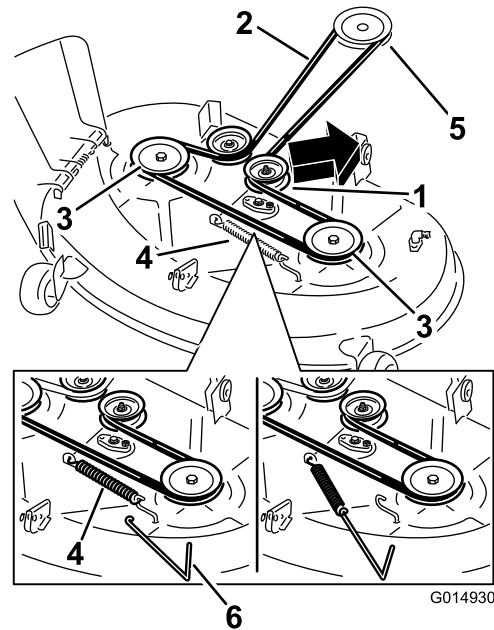
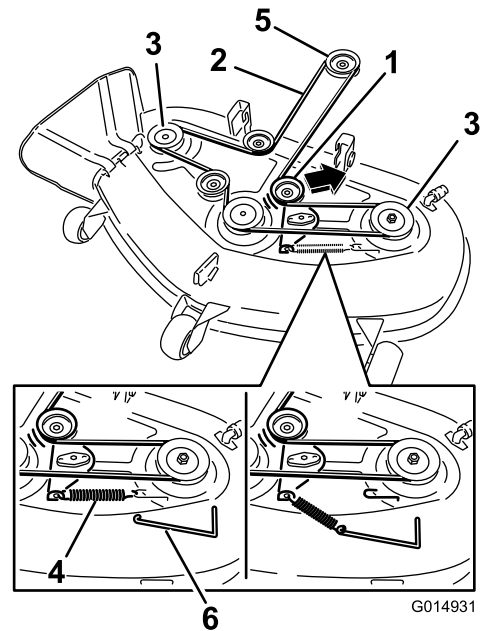

Figure 59
Figure 60
6. Using a spring-removal tool, (Toro Part No. 92-5771), remove the idler spring from the deck hook to remove tension on the idler pulley, and roll the belt off the pulleys (Figure 59 and Figure 60).
7. Route the new belt around the engine pulley and mower pulleys (Figure 60).
8. Using a spring-removal tool, install the idler spring over the deck hook, and place tension on the idler pulley and mower belt (Figure 59 and Figure 60).